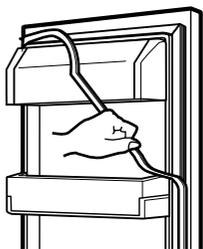

Figure 3
3. Disconnect the three wire harnesses (4). Remove the grounding screw (5).
4. Rotate hinge lever (6) counterclockwise. Lift top hinge (7) free of hinge lever latch (8).
▶ Right Door -FIG. 3
1. Open door. Loosen top hinge cover screw (1). Lift up cover (2).
3. Disconnect wire harness (3).
4. Remove the grounding screw (4).
5. Rotate hinge lever (5) clockwise. Lift top hinge (6) free of hinge lever latch (7).